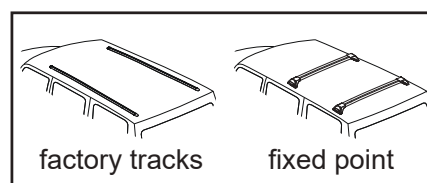

fig. 1
- ❑ For factory-tracks or fixed-points (see figure 1), ensure that the roof does not deform when heavy loads are applied.